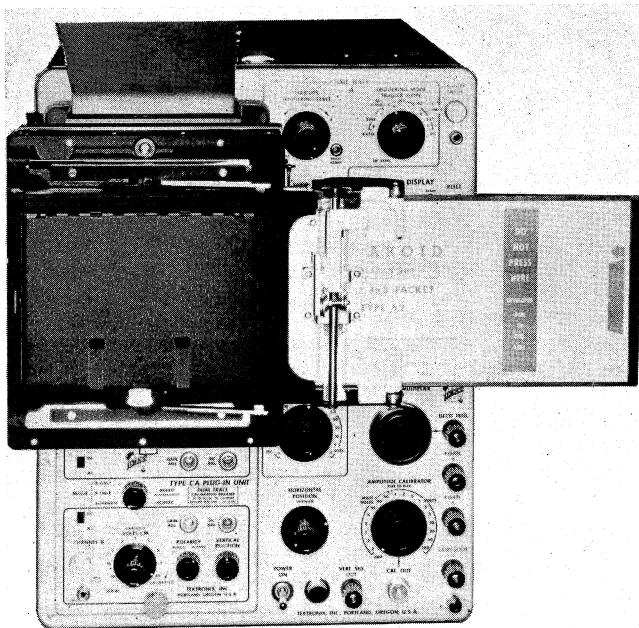

Fig. 2-10. Polaroid film packet ready to be exposed.
**Exposing the Film Packet.** The envelope of the packet acts as a dark slide. When you are ready to expose the film, gently pull the envelope out of the holder until it stops (see Fig. 2-10). You will feel a slight resistance as the dark slide envelope detaches from the negative and metal cap just as you start to pull. To avoid the danger of fogging, the dark slide envelope should not be withdrawn for a longer period than absolutely necessary.